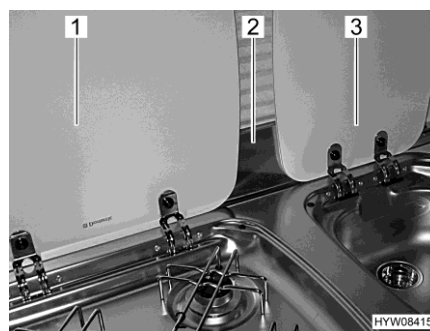

Fig. 141 Flame protection and covers
Before cooking, the flame protection (Fig. 141,2) must be attached to the window frame. The flame protection protects the area between the covers for the sink (Fig. 141,3) and the gas cooker (Fig. 141,1).
- Attach the flame protection (Fig. 141,2) to the window frame.
- Open the gas cooker cover (Fig. 141,1).